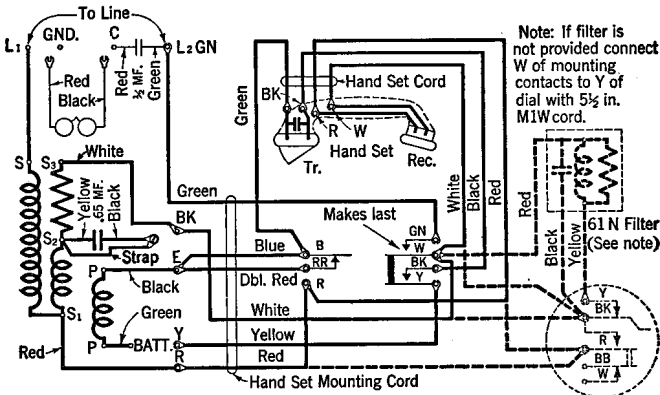
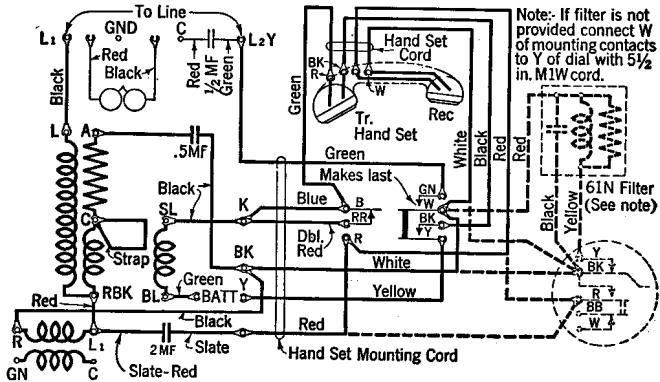

Fig. 2—634Y Subscriber Set and 207-Type Hand Telephone Set (Rewired) for Use with 634BD Subscriber Set
Fig. 3—634YD Subscriber Set and 207-Type Hand Telephone Set (Rewired) for Use with 634BD Subscriber Set
3.02 The station apparatus to be used with the 634BD subscriber set for this purpose should be as shown in Figs. 2 to 8 inclusive or should be the 307E, F, G, H, telephone sets or the 309 or 357-type telephone sets equipped with an F2B hand set.
3.04 The terminal designated E in Fig. 2 and K in Fig. 3, to which the black lead from SL on sets having 104A induction coils or from P on sets having 113D induction coils is transferred, may be any spare terminal in the set, regardless of designation.
Note: Use E2B, E2C or F2B Hand Set with 634YD Subscriber Set (wired per Fig. 3).
Use only E2B or E2C Hand Set with 634Y Subscriber Set (wired per Fig. 2).
Note: Use 144 or 706A Receiver with 634YD Subscriber Set (wired per Fig. 3).
Use only 144 Receiver with 634Y Subscriber Set (wired per Fig. 2).